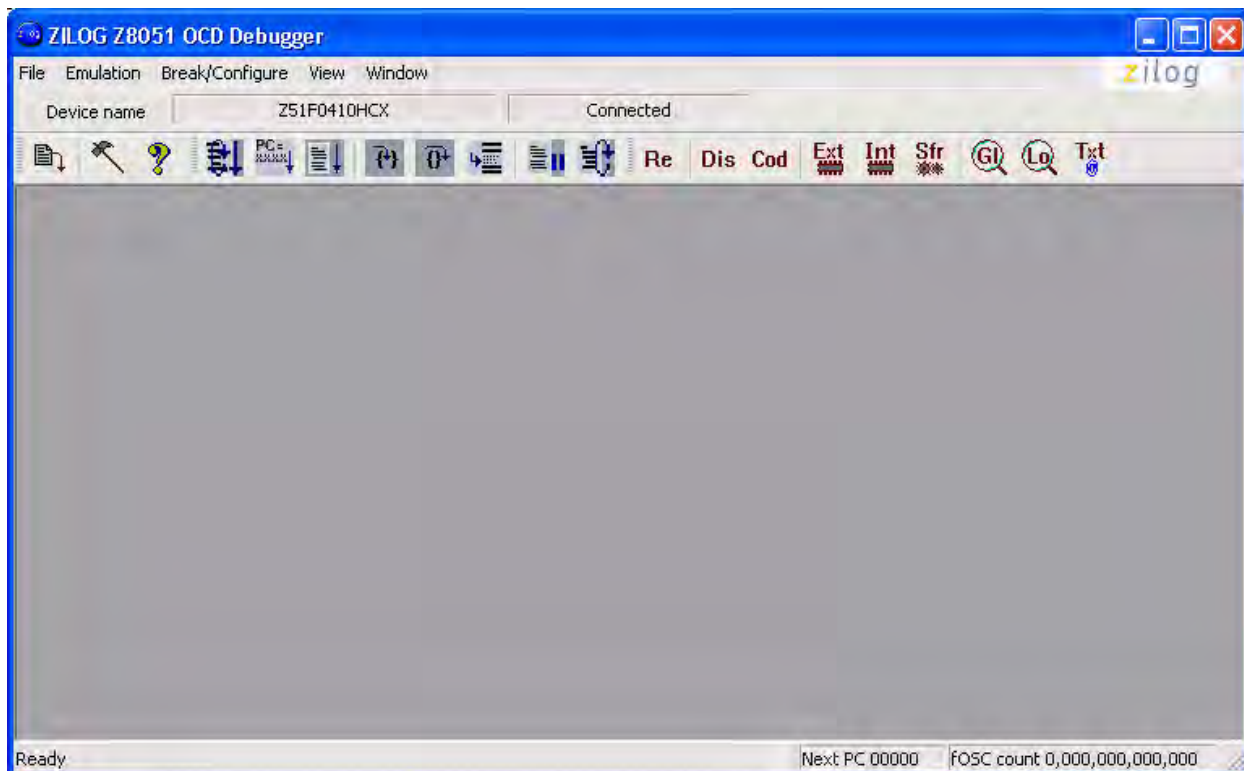

Figure 15. Initial OCD Screen
4. Run the Z8051 OCD software. From the **Start** menu, navigate to **All Programs** → **Zilog Z8051 SW and Docs <version_number>** → **Zilog Z8051 OCD <version_number>**. Once launched, the program will display *Connected*, as shown in Figure 15.